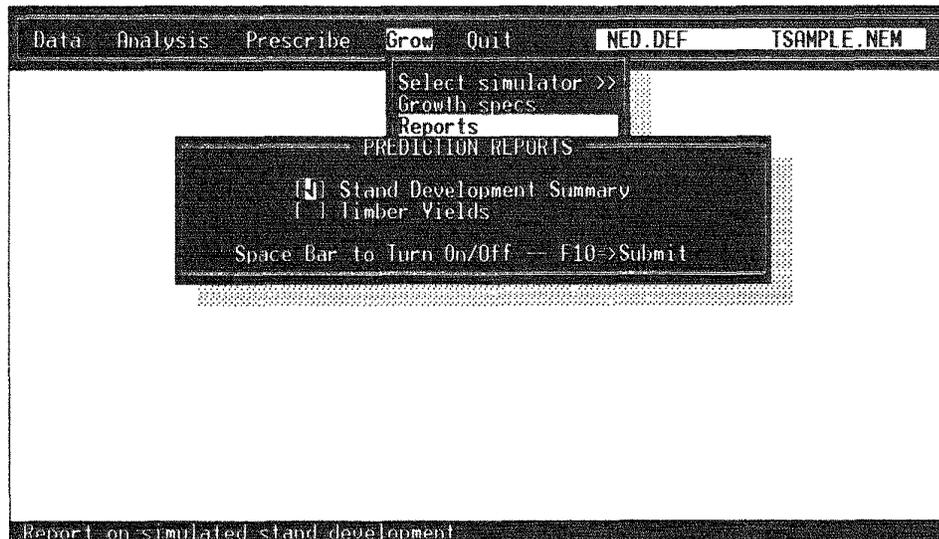

Figure 27. -- Grow Prediction Reports window.
**Operation:** NED/SIPS provides two reports based on the growth simulation (Fig. 27). The first is a stand development summary that provides stand parameter values for each 5-year growth period. This summary will also contain information about any silvicultural treatment that is performed during the growth projection showing cut and residual values. The second report, Timber Yields, reports on the timber yields as a result of a growth simulation. After making all of your report selections, press **F10** to generate the reports.